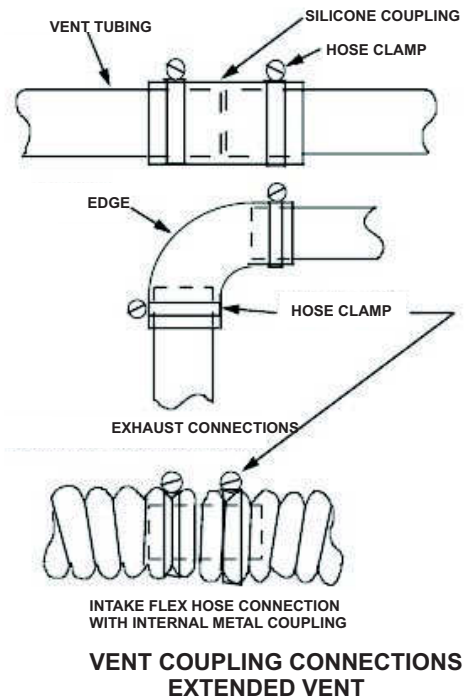

Figure 9
**Note:** If the extended vent kit is used and the exhaust vent pipe is run through a cold space, such as an attic or a garage, the pipe should be insulated using 1/2" (13mm) thick fiberglass insulation or equivalent to keep the flue products warm enough to avoid condensation. Also, slope 1/4" (6mm) per foot (305mm) the vent terminal horizontal run downward toward the outside of the house to assure any condensate flow out of vent system. Horizontal vent pipe runs of 5 feet (1.5m) or more in length may accumulate condensation in the exhaust pipe and must, therefore, be sloped downward to drain any condensate out of the end vent terminal. Use straps or other suitable supports spaced every 5 feet (1.5m) to adequately hold pipe. Be sure to avoid any low spots or sags in pipe run. Be sure all connections are tight using the hose clamps as shown in Figure 9, "Vent Coupling Connections."